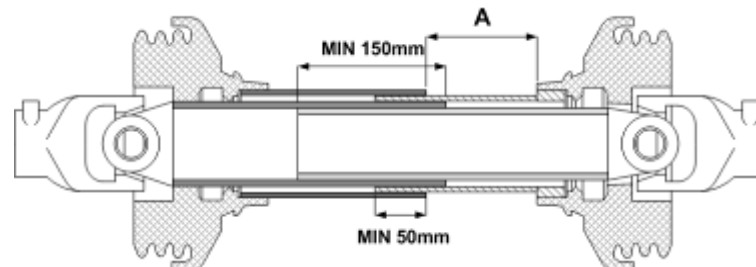

Figure 3.5.1
IMPORTANT: The recommended minimum engagement of the PTO is 150mm in the working position. This measurement must be taken into account when shortening the PTO shaft. (See Figure 3.5.1)
- 3.5.2 Pre-assemble the PTO shaft and check that the drive tube overlap is not less than 150mm, see figure 3.5.1, and 3.5.2a
- 3.5.3 Check that the minimum overlap of the shaft guards is not less than 50mm, see figure 3.5.1.
- 3.5.4 If the overall PTO length is likely to reduce during operation then ensure that at its minimum there is at least 40mm movement left between the guards, see dimension 'A' in figure 3.5.1.